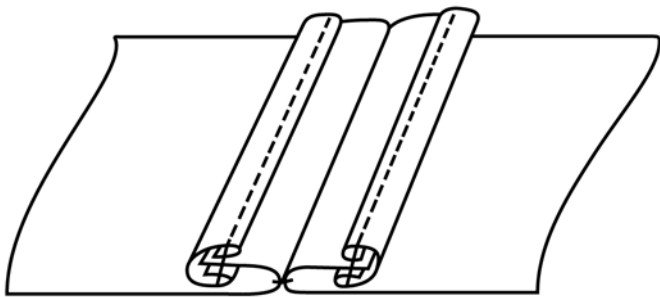

FIG. 1 Bound Seam Finish from Back Side of Fabric
**bound seam-finish**, *n*—in home sewing, a seam finish in which another material is used to enclose the cut edges of one or more seam allowances. (Compare **Hong Kong seam finish**.) (See Fig. 1.)